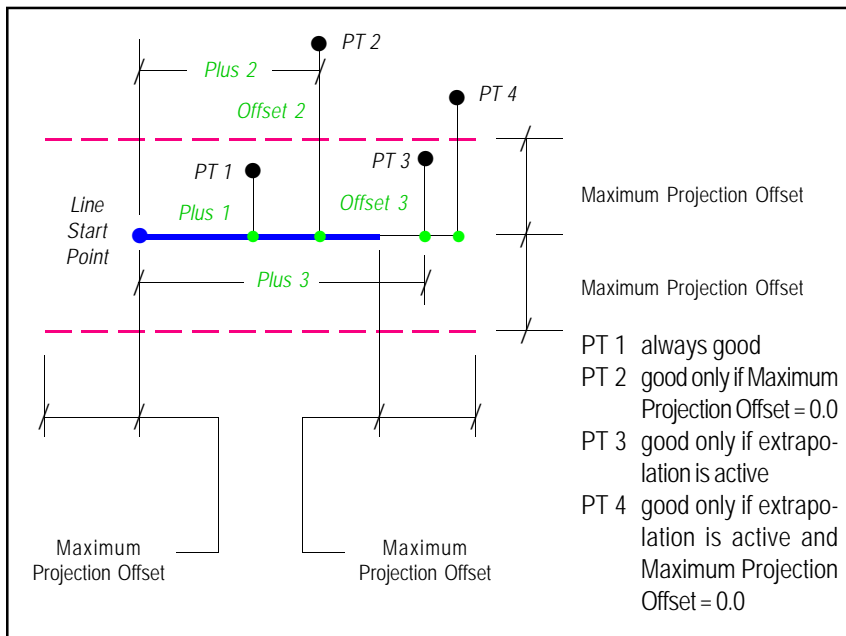

Figure 11
- b. Shown in Figure 11 is an example of four points projected upon a single line which is drawn in blue. Depending upon the setting of the Maximum Projection Offset and Extrapolation Projection parameters, the projections can be valid or invalid.